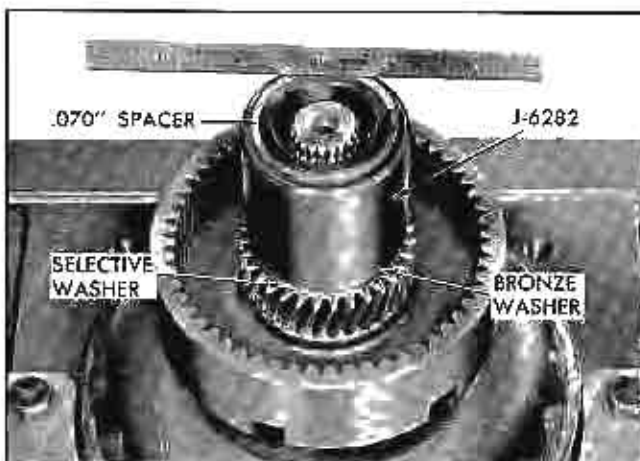

Fig. 168 Selecting Front Unit Spacer Using Special Tool
7. Place end play gauge J-6282 over intermediate shaft (Fig. 168).